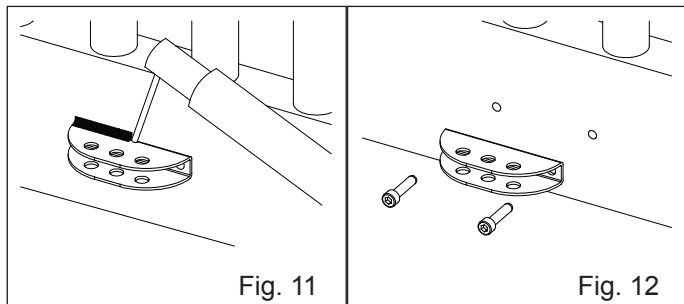

Fig. 11
- The coupling may be welded directly onto the leaf (Fig. 11) or screwed by using the threaded inserts (Fig. 12).